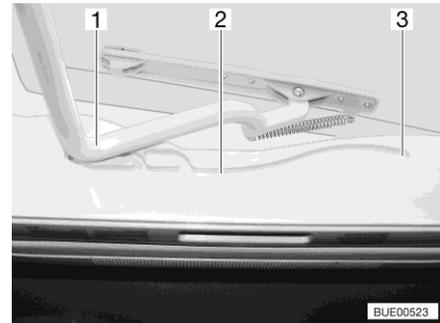

Fig. 116 Guide (Heki skylight)
- Pull the bar (Fig. 116,1) in the guides (Fig. 116,2) to the rearmost position (Fig. 116,3).
- Use both hands to push the bar (Fig. 116,1) slightly upwards.
- Pull the bar in the guides (Fig. 116,2) to the desired position.